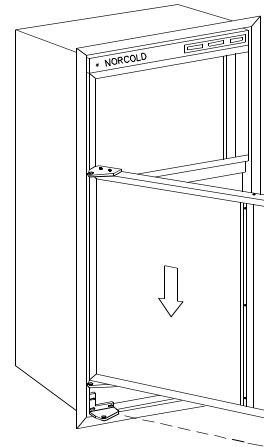

Figure 17
9. Turn the door over so that the end previously at the bottom is now at the top. Relocate the bottom of the door on the bottom hinge pin shoulder. Close door and align holes in top hinge brackets. The magnetic gasket will hold the door in place. Before reinstalling the top door, check to insure that the spacer is in place. (See Figures 17 and 19C)